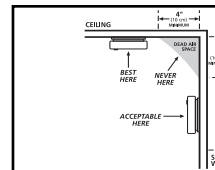

FIGURE 1
- When mounting an alarm on the ceiling, locate it at a minimum of 4" (10 cm) from the side wall (see figure 1).
- When mounting the alarm on the wall, use an inside wall with the top edge of the alarm at a minimum of 4" (10 cm) and a maximum of 12" (30.5 cm) below the ceiling (see figure 1).